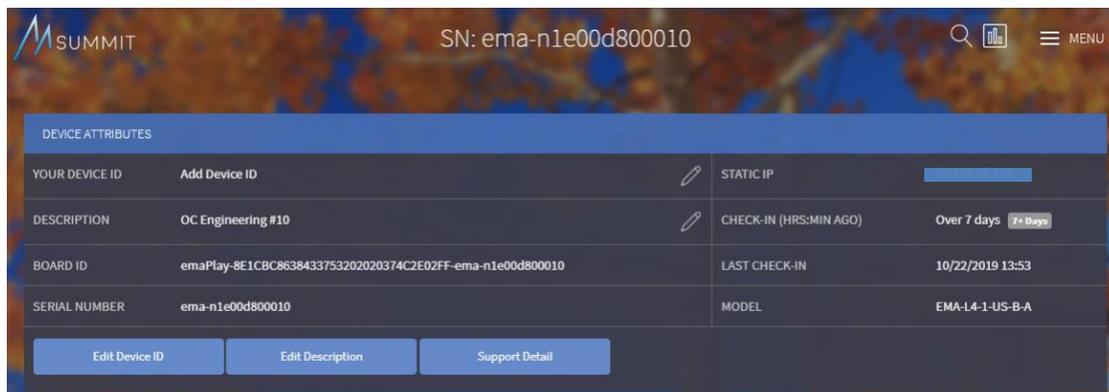

Figure 10
1. The "DEVICE ATTRIBUTES" section can be used to investigate ema's Board ID, IP address, Last check-in, etc. Certain fields (Device ID, and Description) can also be edited accordingly. Reference *Figure 10*.